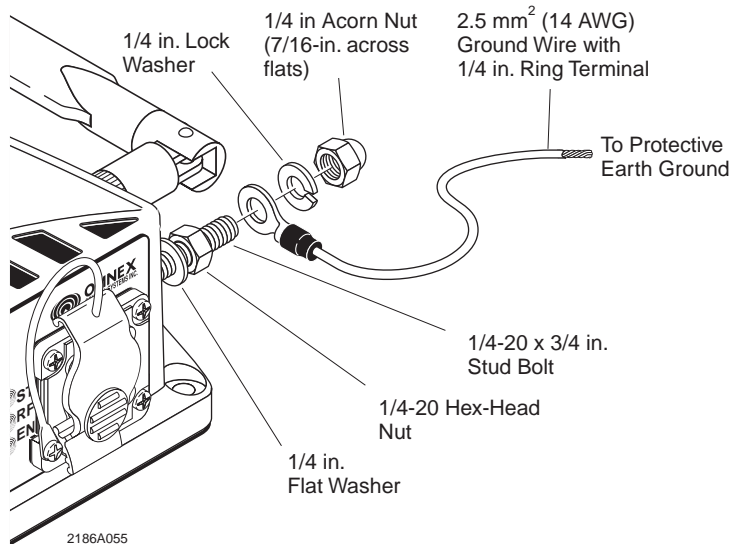

Figure 3-4. RAD-80211-XD-WM Radio Ground Connection
2. Connect the radio to protective earth ground using the ground lug located on the right side of the module. See Figure 3-4.